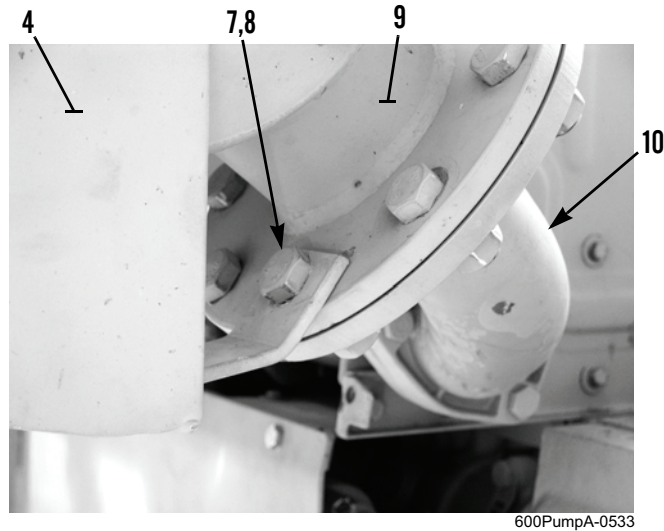

Figure 2. Heat Shield at Muffler and Extension Pipe.
2. Remove nut (Figure 2, Item 7) and bolt (Figure 2, Item 8) from heat shield (Figure 2, Item 4), flange of muffler (Figure 2, Item 9), and flange of extension pipe (Figure 2, Item 10). Remove heat shield.
2. Install bolt (Figure 2, Item 8) and nut (Figure 2, Item 7) to heat shield (Figure 2, Item 4), flange of muffler (Figure 2, Item 9), and flange of extension pipe (Figure 2, Item 10).